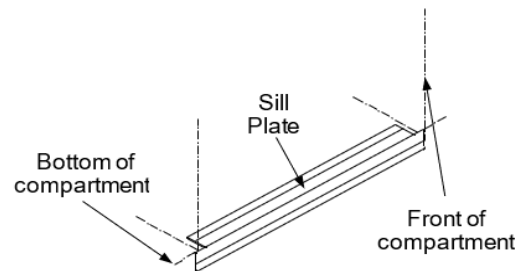

Fig. 3
- Place the sill plate in the center of the bottom compartment. The notches should be on the top, as shown in Fig. 3.